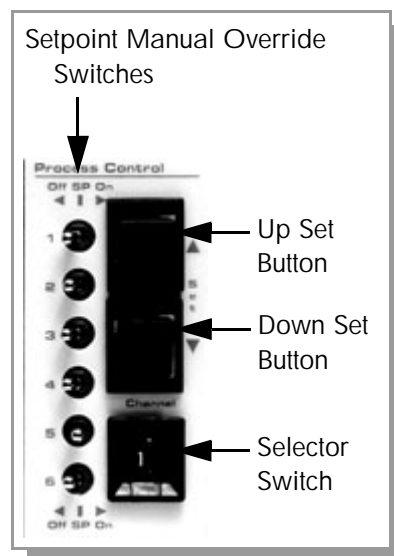

Figure 4-15 Process Control Module, Front Panel.
1. Set the selector switch to the number of the channel you wish to modify (see Figure 4-15).